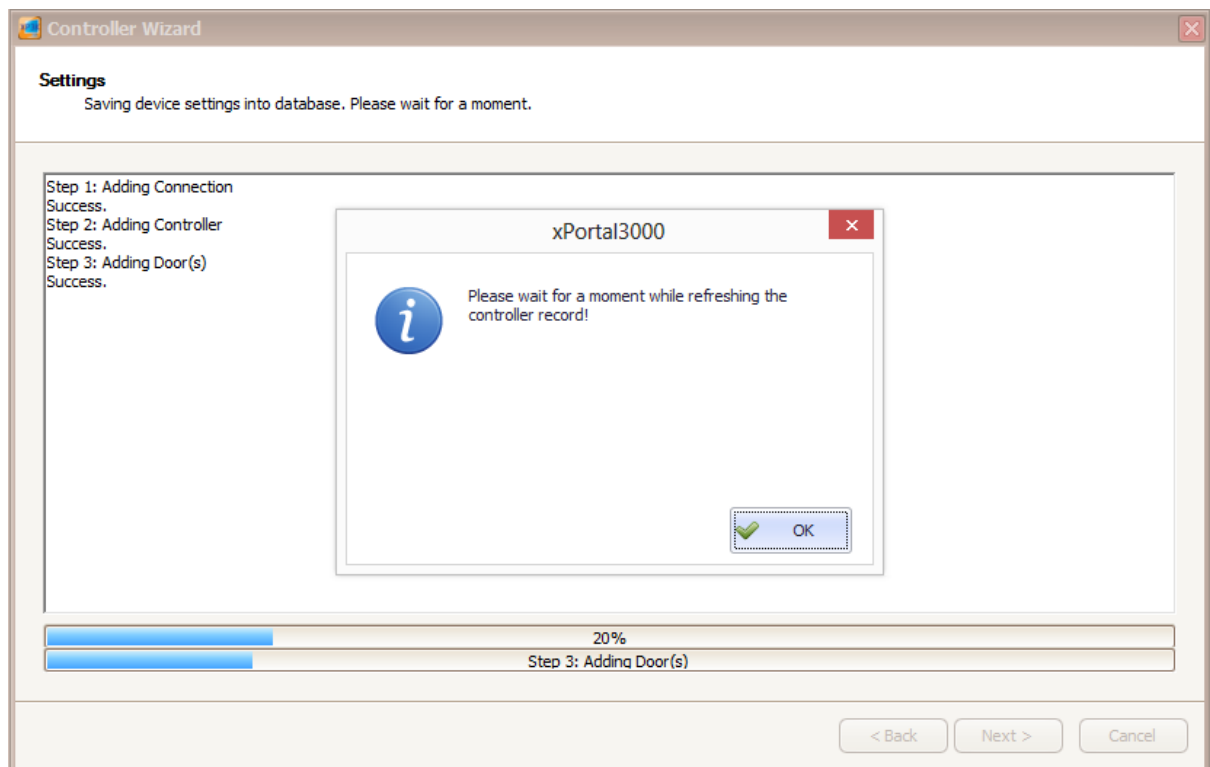

Figure 42 - Refreshing controller window
22. The following screen will be shown (Refer **Figure 42**).